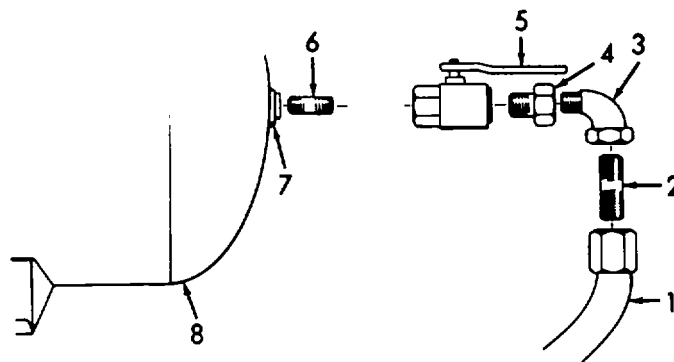

Figure 3-38. Air Valve, Installation.
- (1) Inspect for stripped threads.
- (2) Inspect for signs of obvious damage.
d. Repair. Replace a defective air valve.*e. Installation.* (Refer to Figure 3-38).**NOTE**